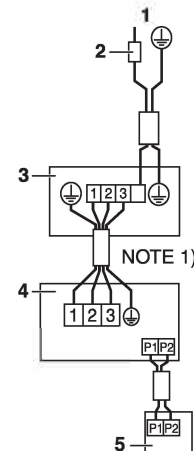

Fig. 22
- 1 remote controller controls 1 indoor unit (standard system). (Refer to Fig. 22)